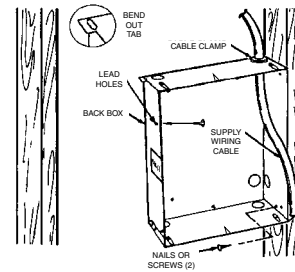

Figure 1
1. Determine which side of the back box is to be mounted against a stud and bend the tabs at the rear corners out 90 degrees so that the back box will be square with the stud after installation. (See Figure 1).
3. Position back box against side of studs and secure using nails or screws as shown in Figure 1.
NOTE: Lead holes for a #8 sheet metal screw have been provided in the sides of the back box.. After the finished wall or ceiling has been put up, drive a # 8 sheet metal screw (recommended 1" long) through the side of the box not mounted to the stud. This will prevent the back box from pulling out when installing the heater assembly. (See Figure 1)